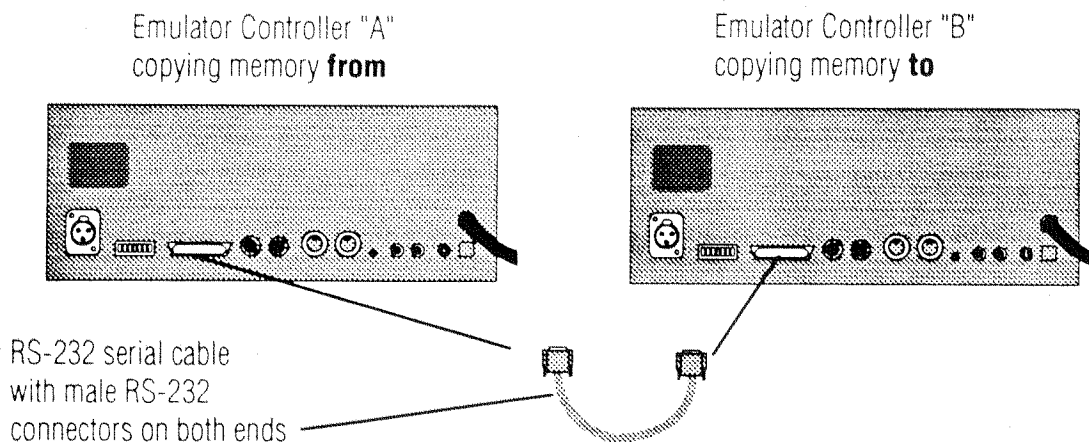

Figure 6.2 Emulator Controller Backup of another Emulator Controller
- It is possible to copy the memories from one controller (controller "A") to another controller (controller "B"). (See Figure 6.2) To do so requires a null-modem cable. A null-modem cable is a cable with a male RS-232 connector on both ends, with only three wires connected in the following fashion; pin seven to pin seven, pin two on one connector to pin three on the other, and pin three on one to pin two on the other (See Table 6.1)
- Connect the RS-232 cable between the two RS-232 ports on the back of the controllers. (See Fig. 6.2)